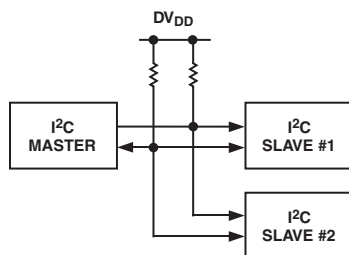

Figure 35. Typical I²C System
- An I²C master can communicate with multiple slave devices. Because each slave device has a unique 7-bit address then single master/slave relationships can exist at all times even in a multislave environment (Figure 35).